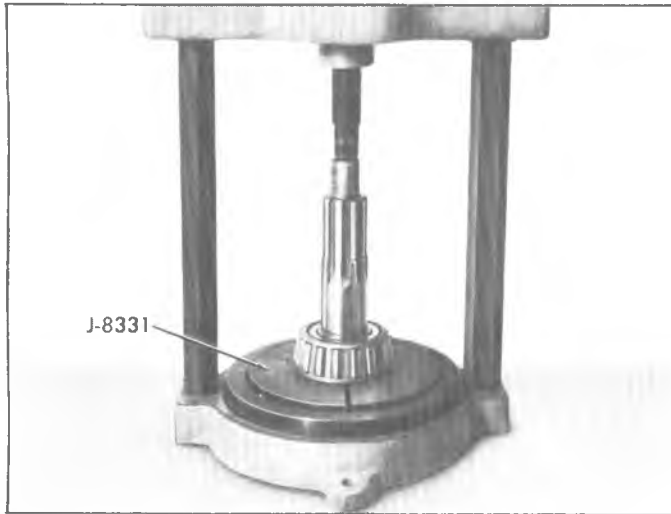

Fig. 7D-Removing Rear Output Shaft Front Bearing
- Using press plates J-8331, remove front bearing from the shaft as shown in Figure 7D.